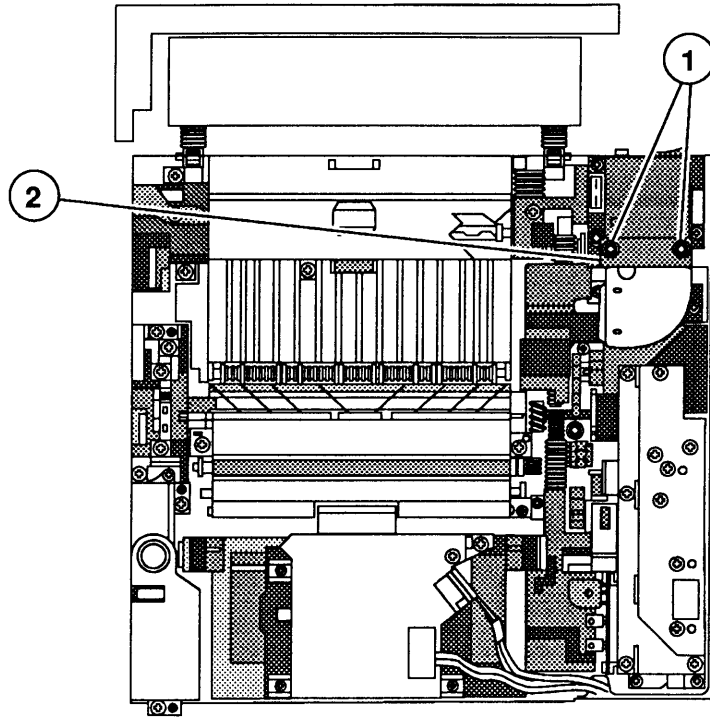

FIGURE 28
2. If the ozone filter case has an access door (Figure 28, #2), open the access door and pull on the ozone filter tab to slide the filter out of the case.
3. If the filter case does not have an access door, remove the two Phillips screws (Figure 28, #1) that secure the filter case to the power supply block, and remove the filter case.